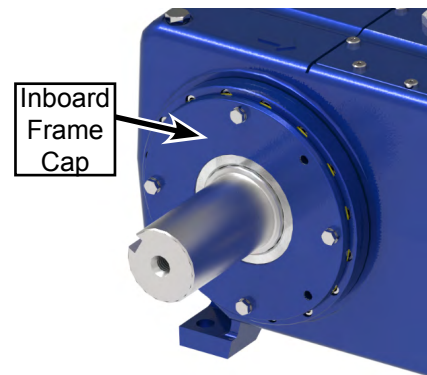

Figure 176: Install Shims and Inboard Frame Cap
14. Install the same shims that were removed during disassembly onto the inboard frame cap. If the shims are not known, start with 1 of each color (yellow, white, blue, brown). Install the outboard frame cap using only 3 capscrews, lock washers, and flat washers. Torque to 50 ft/lbs (68 Nm) (Figure 176)